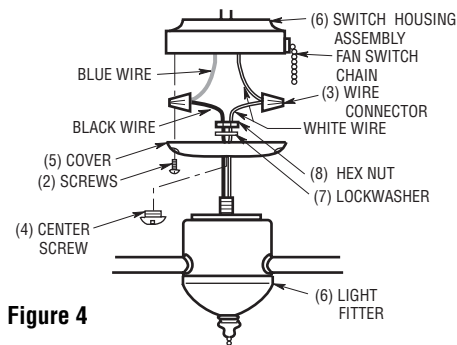

Figure 4
3. Remove the cover (5) from the fan switch housing (1) by removing the two outer screws (2). (See Figure 4).